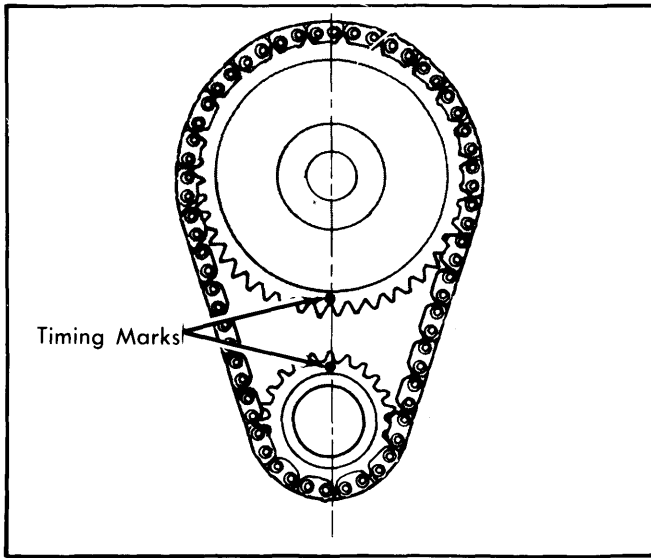

Fig. 17 Aligning Timing Marks
**Removal** — With engine front cover removed, crank engine until timing marks on sprockets are aligned as shown in Fig. 17. Remove camshaft sprocket cap screw, washer, 2-piece fuel pump eccentric and front oil slinger. Slide timing chain and sprockets forward and remove as an assembly.
**Installation** — Assemble timing chain and sprockets so sprocket timing marks are aligned as shown in Fig. 17. Install chain and sprockets as an assembly to crankshaft and camshaft. To install remaining components, reverse removal procedure and lubricate timing chain with engine oil.